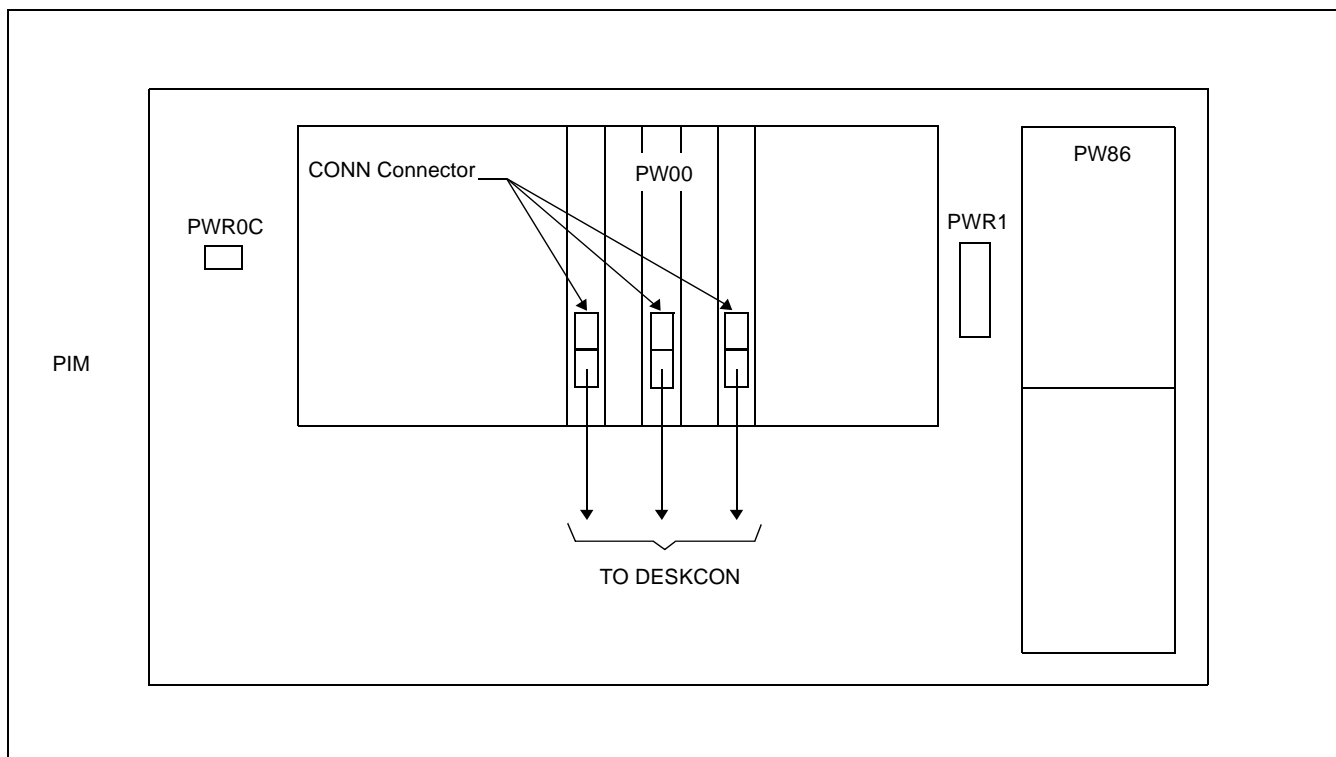

Figure 004-11 PW00 Card connection to the SN716 DESKCON
- (b) Connect the PW00 card and SN716 DESKCON using installation cable as shown in Figure 004-11 and Figure 007-24 (1 of 1 and 1 of 2).